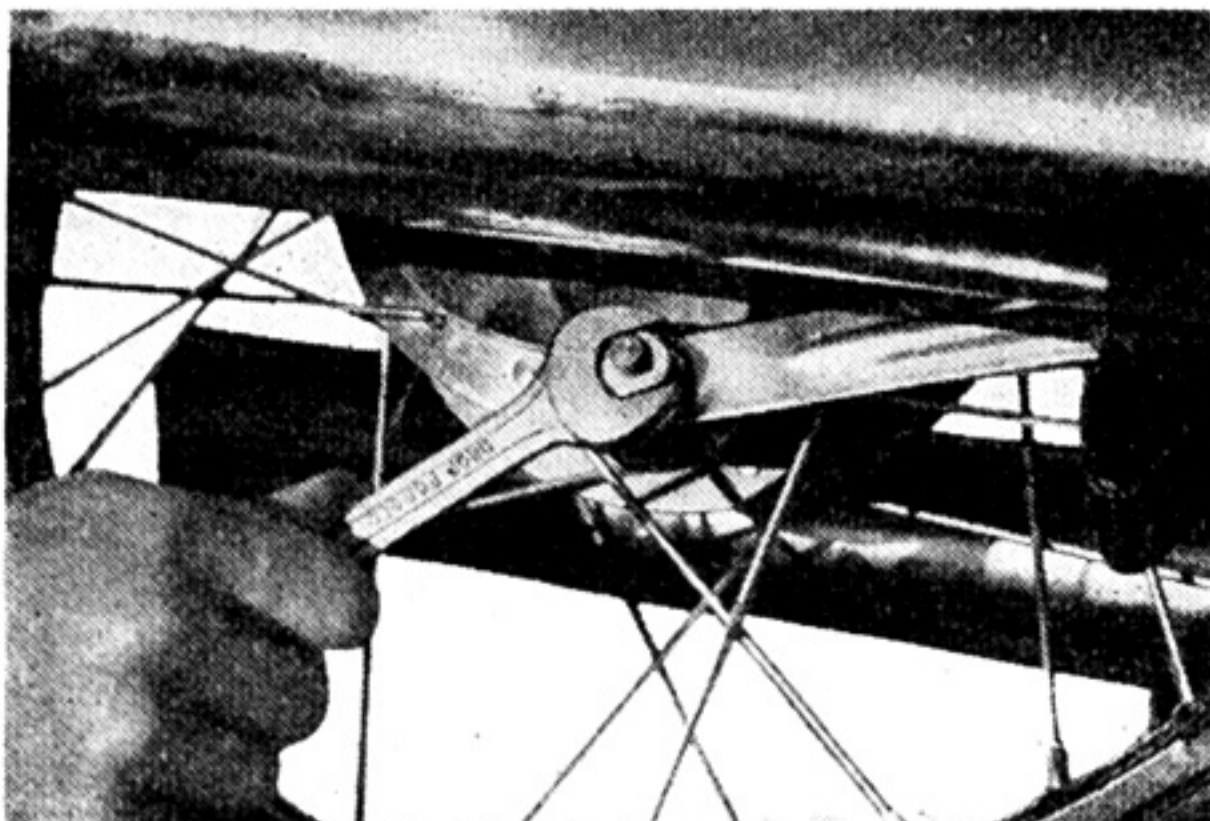

Fig. 4-2-2
- a. Remove the tension bar (anchor bar) and brake rod from the rear brake shoe plate. (Figs. 4-2-2, 3 and 4)